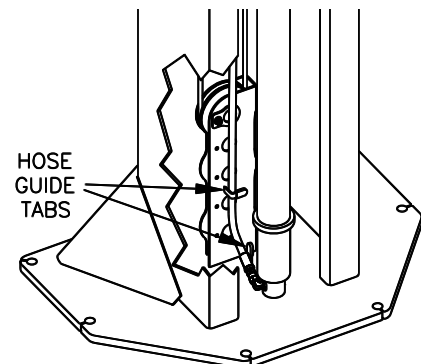

Fig. 4 - Hose Connection
- 11) Pull tension on the free end of the cable and ensure proper routing. While pulling tension on the cable, slide the cylinder and carriage down until the carriage is 8" from the baseplate. Slide the hydraulic cylinder down and route the hydraulic hose around the hose guide tabs to prevent rotation of the cylinder, **Fig 4**. While pulling tension on the cable to avoid kinking, slide the carriage and cylinder down to base of lift.